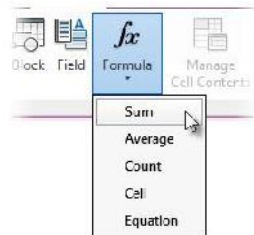

FIGURE 9.70: Adding a formula to the cell
10. In the Insert panel, click the Formula button and then choose Sum, as shown in Figure 9.70.